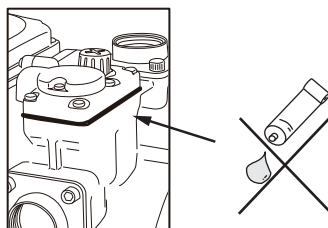

Fig. 4
8. Regular maintenance requires you to open the prime cover in order to access the check valve. DO NOT apply any bonded material (such as silicon, glue etc) to seal the chamber cover (See Fig 4).